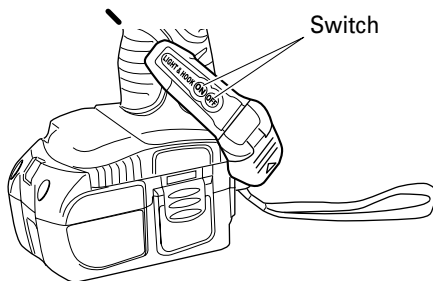

Fig. 14
**(3) Using as an auxiliary light**
- (b) The direction of the light can be adjusted within the range of hook positions 1 - 5. (Fig. 14)